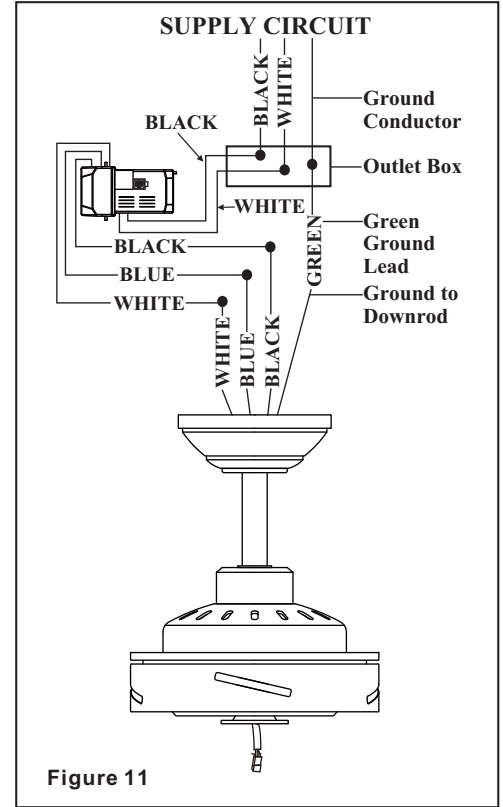

Figure 11
- (Figure 11) Motor to receiver electrical connections: Connect the black wire from the fan to black wire marked "TO MOTOR L". Connect the white wire from the fan to the white wire marked "TO MOTOR N" from the receiver. Connect the blue wire from the fan to the blue wire marked "For Light" from the receiver. Secure the wire connections with the plastic wire connecting nuts provided.
- (Figure 11) Receiver to house supply wires electrical connections: Connect the black (hot) wire from the ceiling to the black wire marked "AC in L" from the receiver. Connect the white (neutral) wire from the ceiling to the white wire marked "AC in N" from the receiver. Secure the wire connections with the plastic wire connecting nuts provided.
- (Figure 11) If your outlet box has a ground wire (green or bare copper) connect it to the fan ground wires; otherwise connect the hanging bracket ground wire to the mounting bracket. Secure the wire connection with a plastic nut provided. After connecting the wires spread them apart so that the green and white wires are on one side of the outlet box and black and blue wires are on the other side. Carefully tuck the wire connections up into the outlet box.
Step 1. Insert the blade through the slot in the housing. Align the holes in the blade and the fan motor assembly and secure with the screw and fiber washer. (Fig. 11)